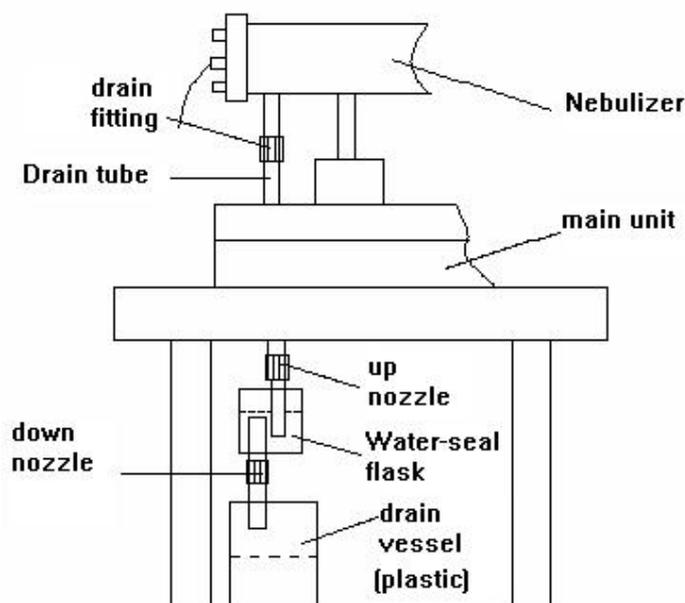

Figure 3-4 Waste liquid tube connections
3.3.4.6 Connections of waste pipe (See figure 3-4)